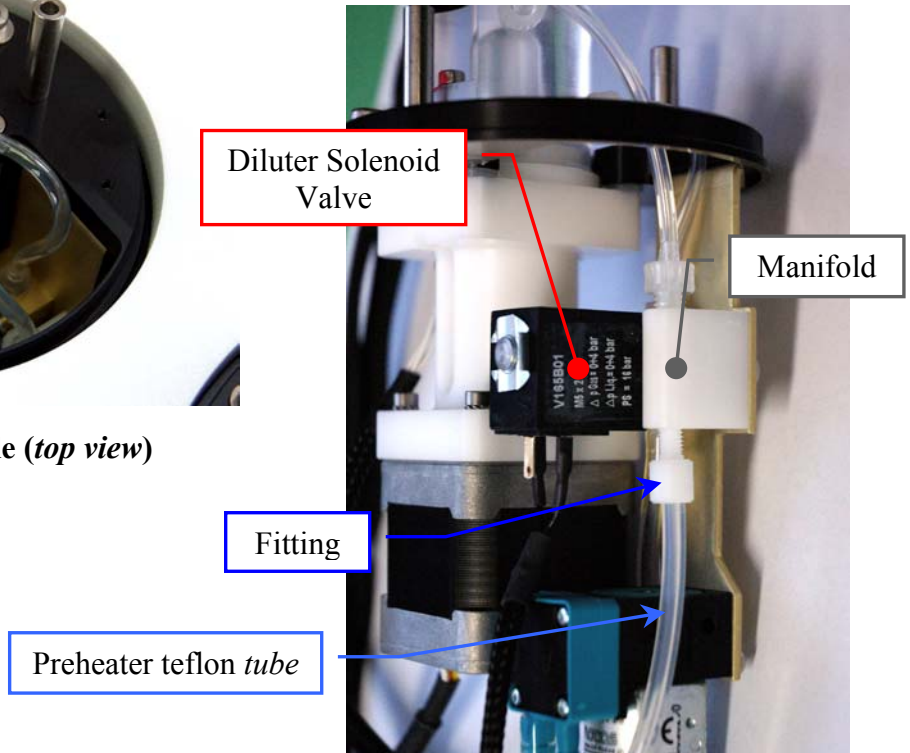

Fig. 16 – Diluter fitting
7. Remove the Preheater teflon tube from the manifold of the Diluter Solenoid Valve by unscrewing the fitting (Fig. 16), paying special attention to liquid leakage.